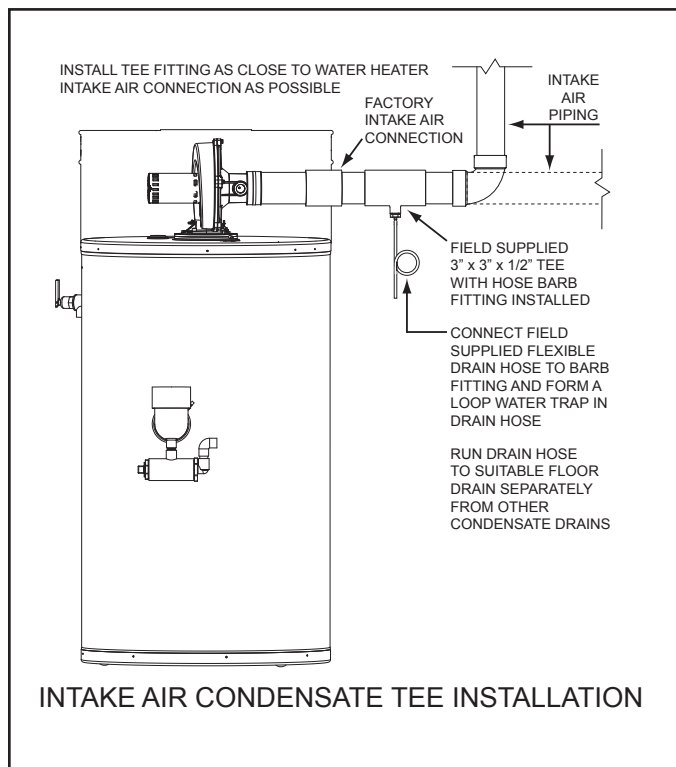

Figure 17
9. A field supplied condensate Tee fitting and drain hose should be installed in the intake air piping near the water heater in colder climates with heavy snow accumulations and in areas that regularly experience high humidity. The drain hose should be routed to an adequate floor drain separate from any other condensate drains. See Figure 17 on page 24.